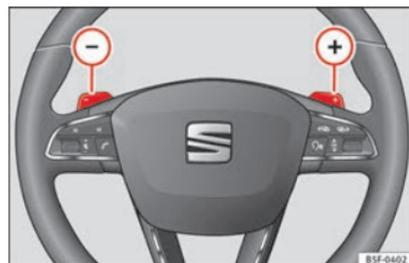

Fig. 160 Steering wheel with paddle levers for automatic gearbox.
- Press the right paddle lever (+) towards the steering wheel to change up »» Fig. 160.
- Press the left paddle lever (-) towards the steering wheel to change down »» Fig. 160. »»
If the paddle levers » **Fig. 160** are used in the normal or sport programme, the system switches temporarily to “tiptronic” mode. To exit “Tiptronic” mode again, press the right paddle lever  towards the steering wheel for approximately one second. You will also leave “tiptronic” mode if the paddle levers are not moved for a certain time.